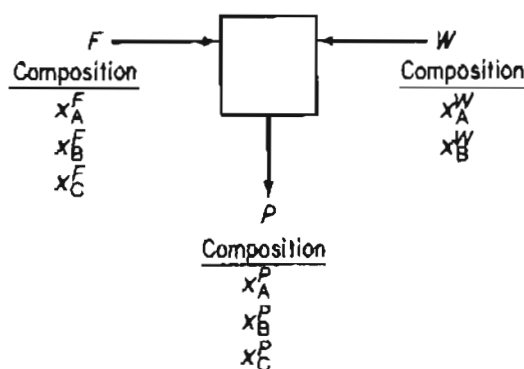

Figure P7.11
- **7.11** You have been asked to check out the process shown in Figure P7.11. What will be the minimum number of measurements to make in order to compute the value of each of the stream flow rates and stream concentrations? Explain your answer.